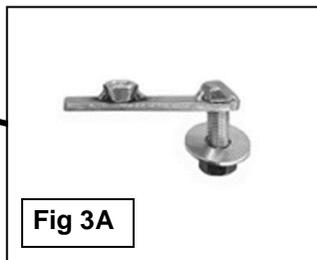

Fig 3A
4. Next, locate the round and square holes in the floor panel next to the body mount. Select (1) 12mm x 40mm x 10mm Nut and Bolt Plate and thread (1) 12mm Plastic Retainer part way onto it, **(Figure 3A)**. Insert the Nut and Bolt Plate into the square hole in the floor, **(Figure 3B)**. Line up the nut on the Nut and Bolt Plate with the round hole. **IMPORTANT:** The Plastic Retainer is designed to prevent the Bolt Plate from falling into the body cavity and to aid in mounting the Bracket. After inserting, thread the Plastic Retainer down flush against the body panel. **NOTE:** For passenger side installation, temporarily remove the ground strap if interfering with install.